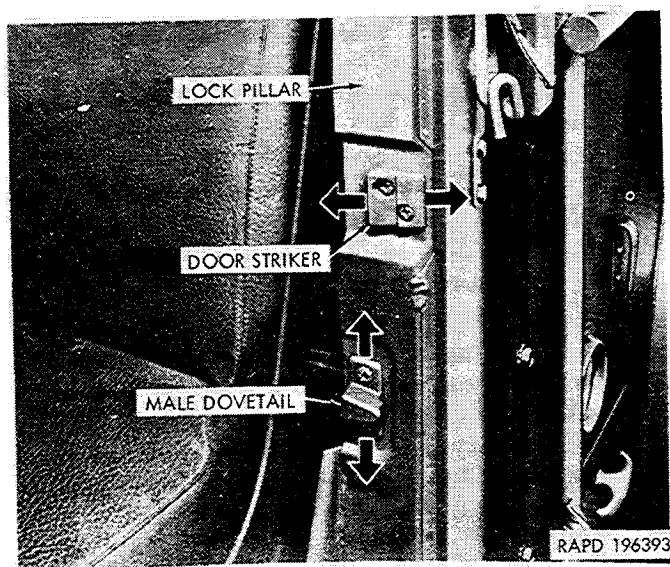

Figure 2-186. Door striker and dovetail adjustments.
(2) Close the door and roll the door glass up to within approximately one-fourth inch of the upper weatherseal. Check the fit of the door glass frame in the weatherseals at the top and each side. The sides and top of the frame should be a uniform distance from the weatherseal retainers and should contact the weatherseals at all points. If adjustments are required, refer to *e* through *j* below.
c. Adjust Door Lock Striker and Dovetail (Fig. 2-186). The door lock striker and dovetail adjustments are made to provide proper engagement of the door lock and the dovetails to insure correct closing and correct seal at the door weatherstrips. To adjust the striker, loosen the two lockwasher screws that secure the striker to the lock pillar and move the striker in or out, as required. To adjust the dovetail, loosen the two lockwasher screws that secure the male dovetail to the lock pillar and move the dovetail up or down, as required. Tighten the screws after making the adjustments.